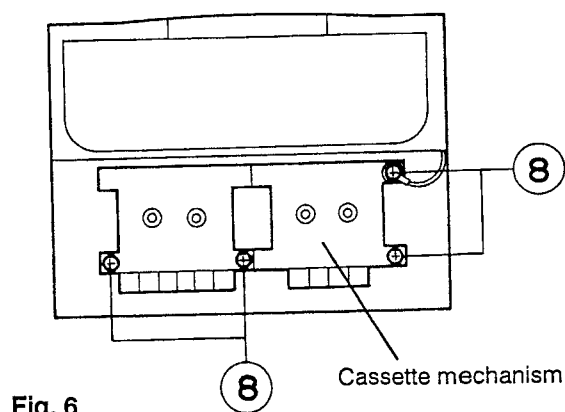

Fig. 6
■ Cassette Mechanism Assembly (refer to Fig.6)
1. Remove the four screws ⑧ retaining the cassette mechanism assembly.